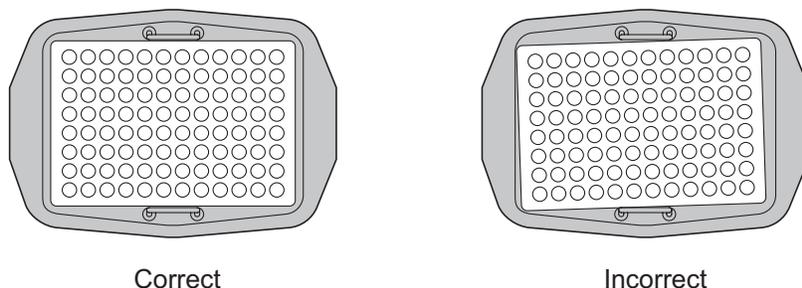

Figure 2. Correct and Incorrect Alignment of Microplates in the Bucket
- All microplates listed in the JS-5.3 manual can be used with the covers. When using six stacked microplates (part number 609844, multiwell polystyrene plate, 96-well), make sure that the plates are aligned parallel to the bucket edge before placing a cover on the bucket, as shown in Figure 2.